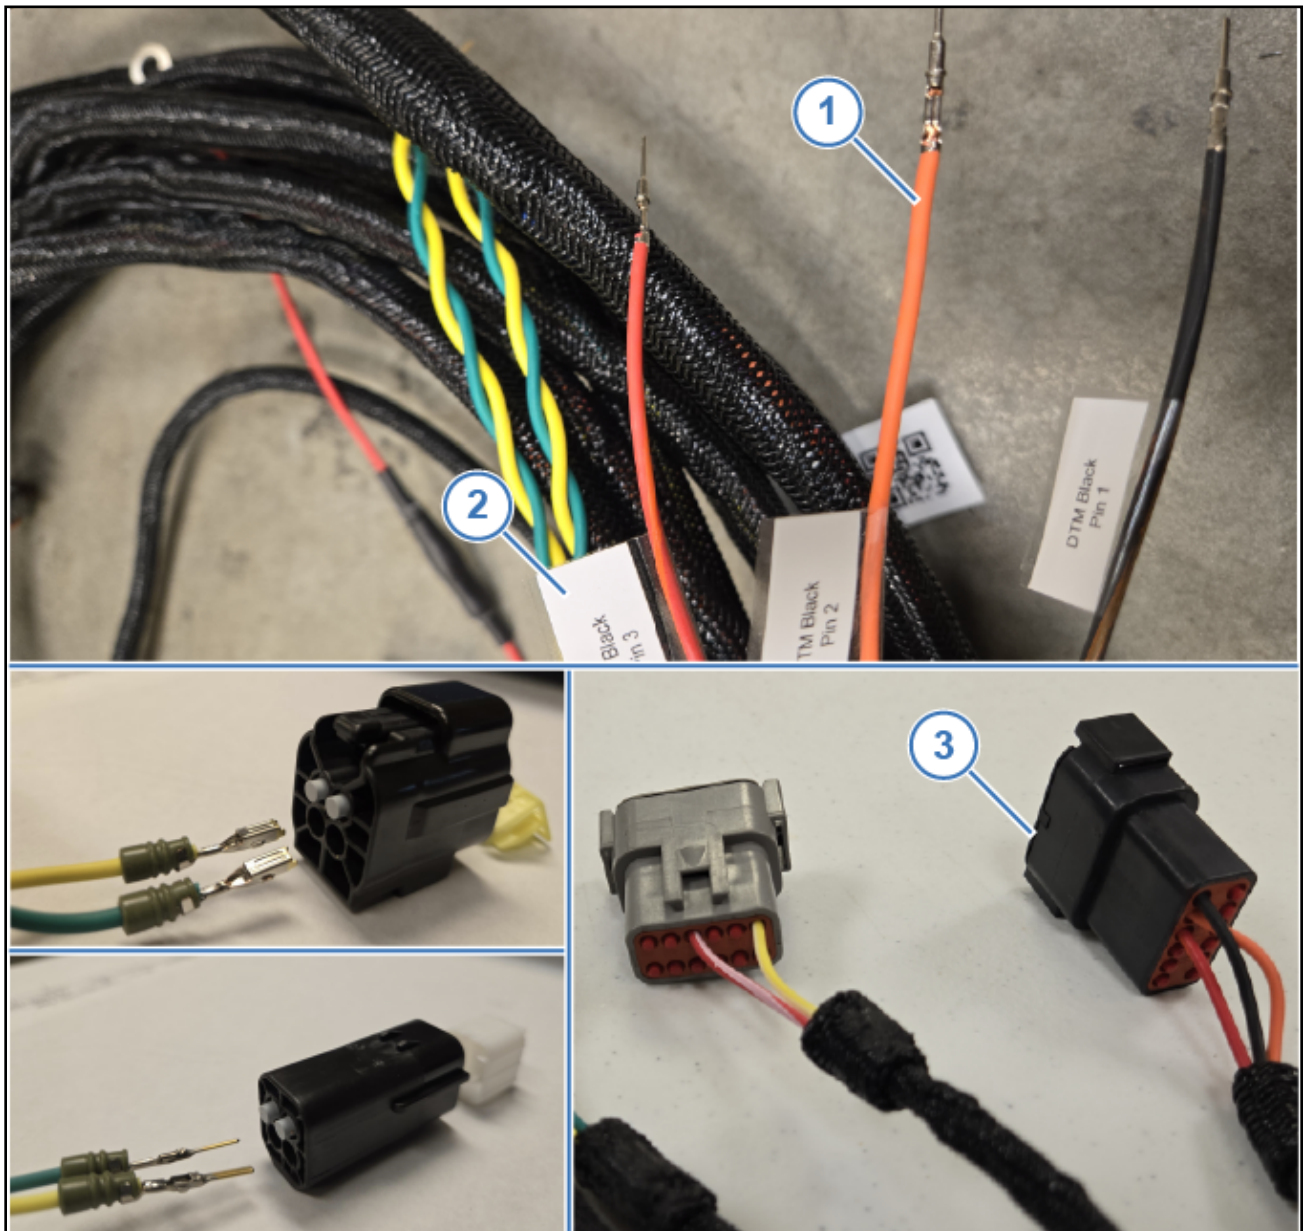

Figure 6: Chassis Harness Connectors
12. Install unterminated wires (Figure 6, Item 1) from the Chassis Harness, labeled (Figure 6, Item 2) on each wire, into their corresponding connectors (Figure 6, Item 3).